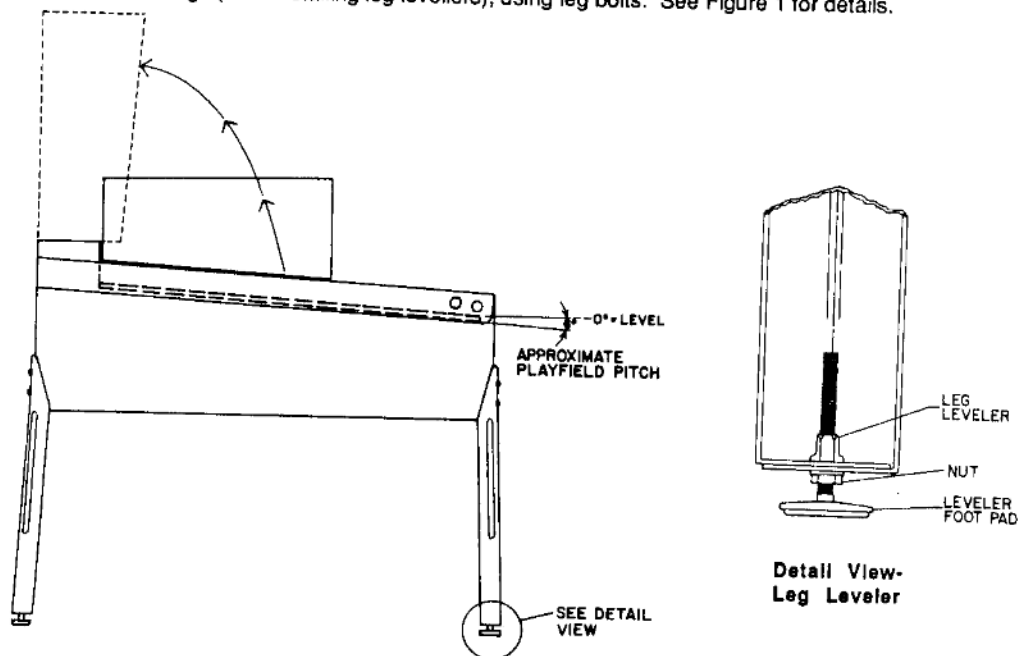

Figure 1. Pinball Assembly, Playfield Pitch Angle, and Leg Leveler Details.
3. Attach the front legs (after installing leg levellers), using leg bolts. See Figure 1 for details.
7. Adjust the leg levelers for proper playfield level (side-to-side) and playfield pitch angle (incline) of approximately 6 degrees. (Again, it is recommended that these measurements be made **ON** the playfield, not the cabinet nor the playfield cover glass.) Tighten the nut on each leg leveler shaft to maintain this setting, as shown in Figure 1.